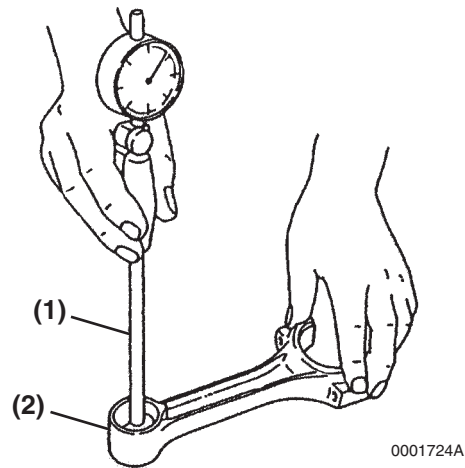

Figure 6-116
1. Measure the wrist pin bushing bore using a bore gauge (**Figure 6-116, (1)**). Replace the bushing if not within specifications. If the bushing has been removed, measure the inside diameter of the connecting rod small end (**Figure 6-116, (2)**). See *Connecting Rod* on page 6-21 for specifications.